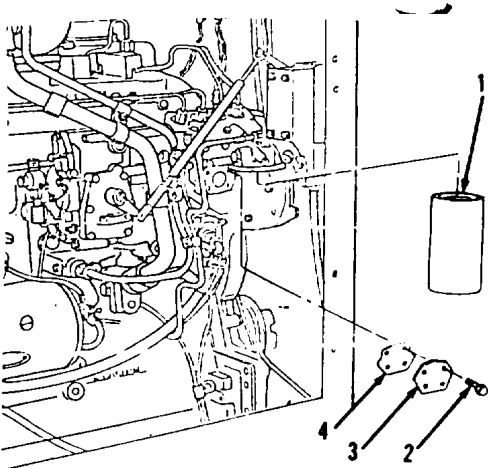
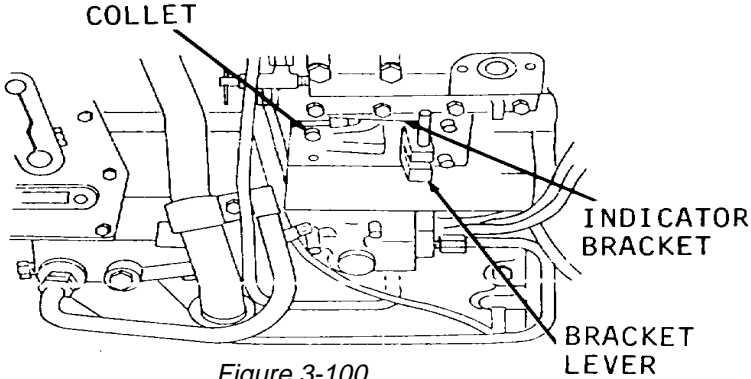
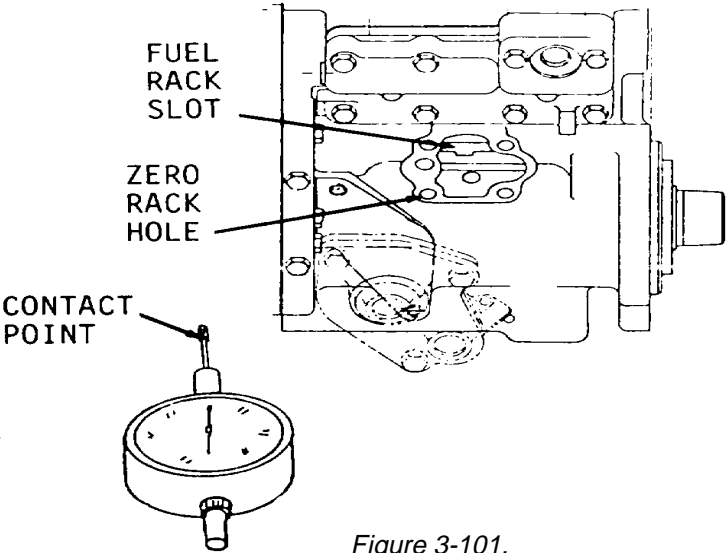
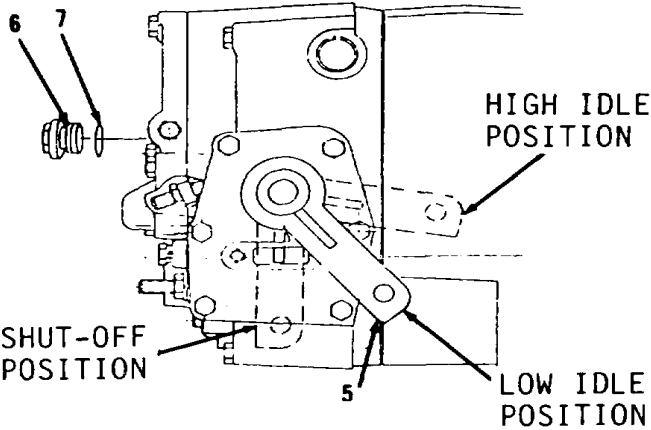

Figure 3-99.
Figure 3-100.
Figure 3-101.
Figure 3-104.
1. Remove secondary fuel filter (1, Figure 3-99) from fuel injection pump.
2. Remove four bolts (2), cover (3) and gasket (4). Discard gasket (4). Remove all gasket material from mounting surfaces.
3. Install collett on indicator bracket (Figure 3-100).
4. Install indicator bracket. Engage bracket lever in fuel rack slot (Figure 3-101). Tighten bracket to pump housing. The lever on indicator bracket (Figure 3-100) must move smoothly when governor control is moved from high to low idle.
- 7. Move governor control lever (5, Figure 3-104) to shut-off position.
- 8. Install timing pin (Figure 3-105). Position through indicator bracket hole into zero rack pin hole in injection pump (Figure 3-101). Push timing pin in until contact with fuel rack is made.
- 9. Move governor control lever (5, Figure 3-104) to high idle. Fuel rack (Figure 3-101) will move against timing pin and stop.